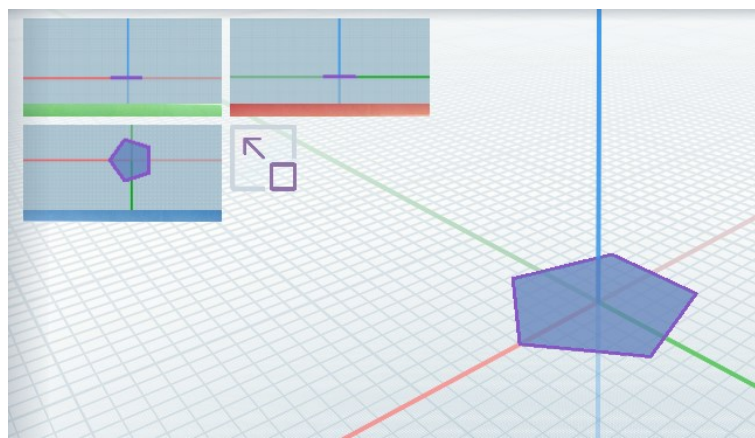

Figure 54 – Creating a 2D Shape by Clicking. Perspective View
- if perspective view is active, the created 2D shape will lie in the XY plane (Figure 54);